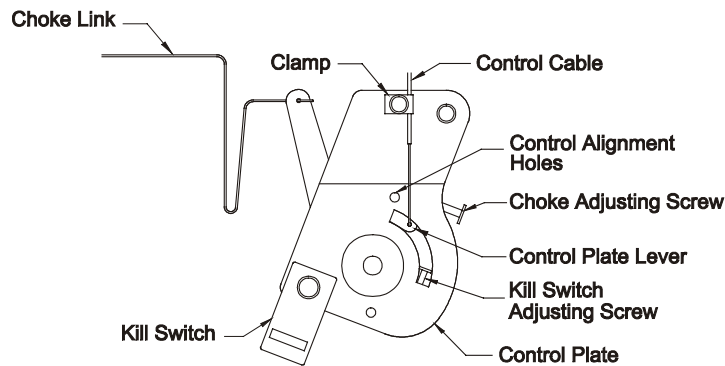

FIG 2
- b) Loosen clamp on engine control plate (See Figures 2, 3 & 4). Attach inner wire of the throttle cable to the control plate lever and position cable clamp, **do not** tighten clamp.